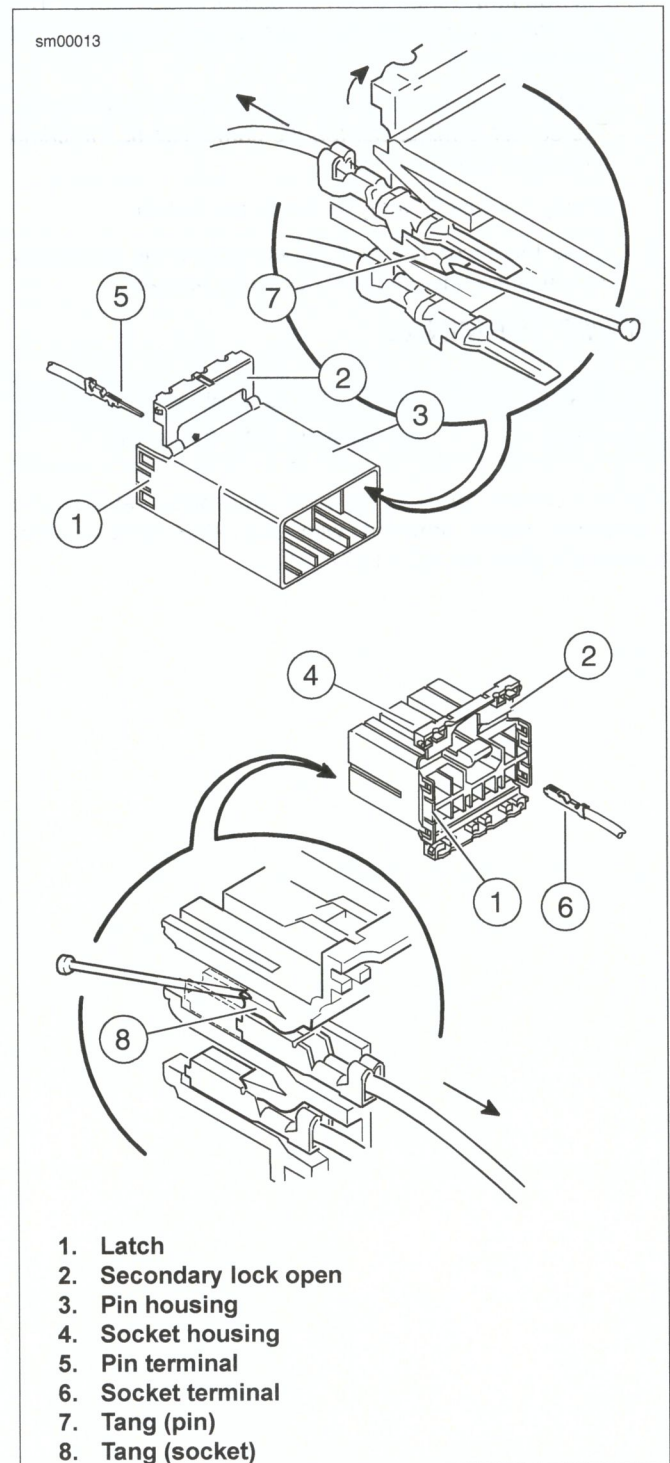

Figure A-27. Tyco 070 Multilock Unsealed Connector: Socket and Pin Housings
1. See Figure A-27. Open secondary lock.
- a. Lift latch (1) to free tab of secondary lock (2).